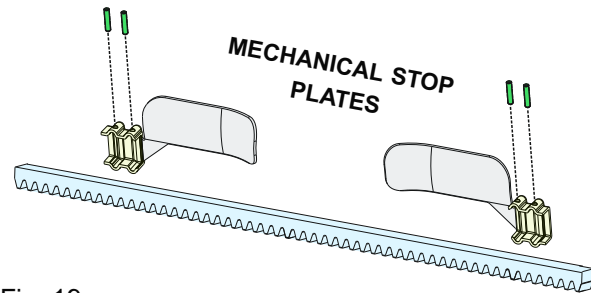
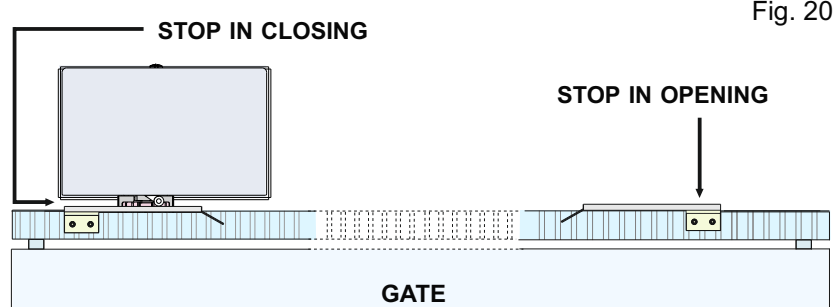

Fig. 19
Fig. 20
KEEP A GAP OF ABOUT 1 mm BETWEEN THE PINION TOOTH AND THE GEAR RACK TOOTH TO AVOID THAT THE GATE WEIGHTS DOWN THE PINION - FIG. 19
- Place the plate - Fig. 19 - on the rack according to the desired gate stop position - Fig. 20; fix the plate on the rack using the supplied screws.